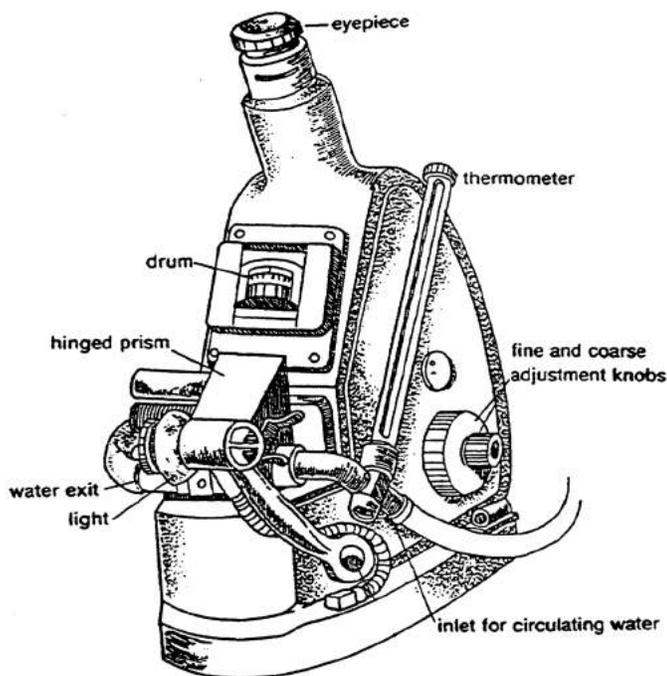

Figure 4.2. The Bausch and Lomb Abbé-3L refractometer
Refractive indices are measured using a **refractometer**. The particular instrument that you will be using in this experiment is an Abbé-3L refractometer, manufactured by Bausch and Lomb. A diagram of the refractometer is shown in Figure 4.2.
5. Set the borderline between the light and dark halves on the intersection of the two crosshairs. This is achieved by rotating the hand-wheel located on the right hand side of the instrument as you look at it (see Figure 4.2).